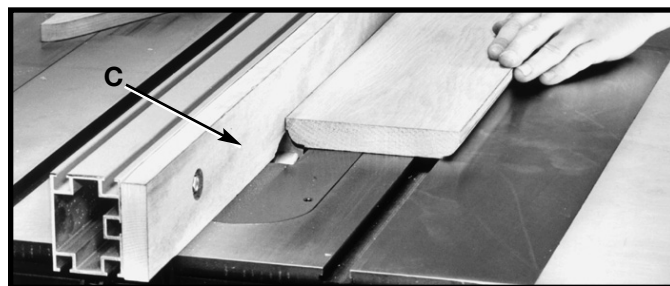
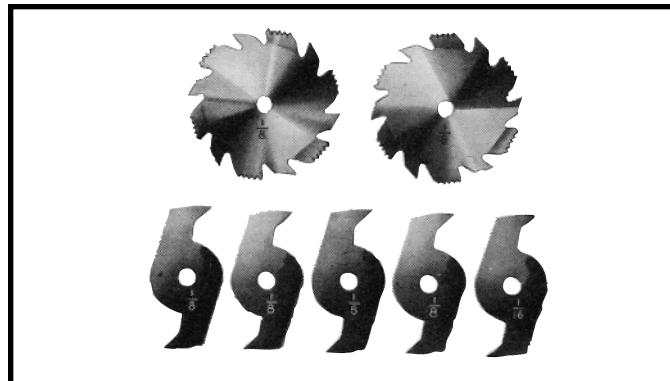
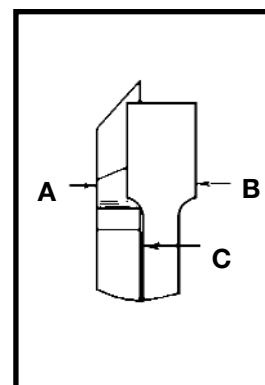

Fig. 61
Fig. 62
Fig. 63
2. When using the moulding cutterhead, add wood-facing (C) to the face of the rip fence (Fig. 61). The wood-facing is attached to the fence with wood screws through holes which must be drilled in the fence. Stock that is 3/4" inch thick is suitable for most work, although an occasional job may require 1 inch facing.
3. Position the wood-facing over the cutterhead with the cutterhead below the surface of the table. Turn the saw on and raise the cutterhead. The cutterhead will cut its own groove in the wood-facing. Fig. 61 shows a typical moulding operation.
1. Dadoing is cutting a rabbet or wide groove into the work. Most dado head sets are made up of two outside saws and four or five inside cutters, (Fig. 61). Various combinations of saws and cutters are used to cut grooves from 1/8" to 13/16" for use in shelving, making joints, tenoning, grooving, etc. The cutters are heavily swaged and must be arranged so that this heavy portion falls in the gullets of the outside saws, as shown in Fig. 62. The saw and cutter overlap is shown in Fig. 63 (A) being the outside saw, (B) an inside cutter, and (C) a paper washer or washers, used as needed to control the exact width of groove. A 1/4" groove is cut by using the two outside saws. The teeth of the saws should be positioned so that the raker on one saw is beside the cutting teeth on the other saw.